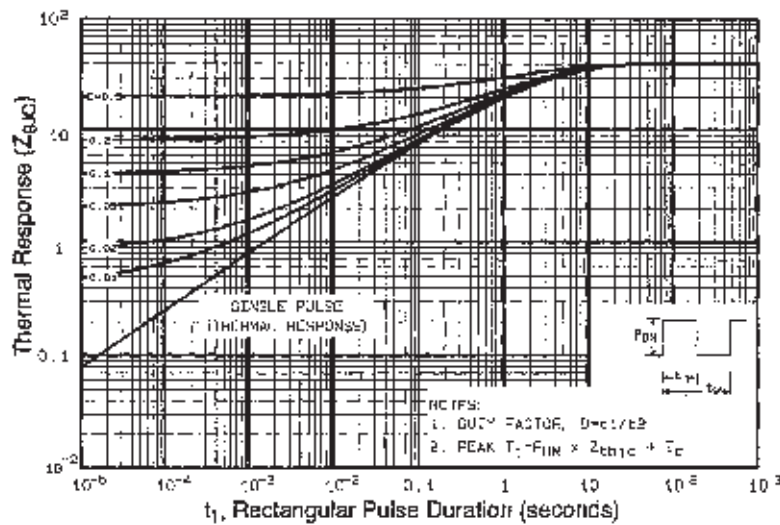

Fig 11. Maximum Effective Transient Thermal Impedance, Junction to Case
① Repetitive rating; pulse width limited by max. junction temperature. (See fig. 11)
② $V_{DD} = 25V$, starting $T_J = 25^\circ\text{C}$, $L = 25\text{mH}$